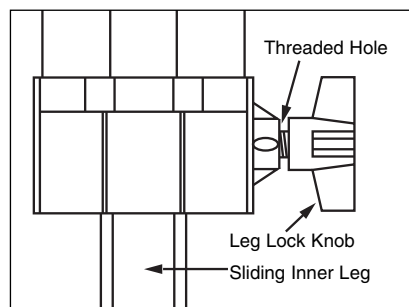

Fig. 1f: Tripod lock knob assembly.
- The three tripod lock knobs (43) have been removed from the bottom section of each tripod leg to insure safe arrival of the tripod assembly. To install, thread in each tripod lock knob into the threaded hole located at the right side of each of the three castings (see **Fig. 1f**) at the bottom of each tripod leg. Tighten the tripod lock knob only to a "firm feel" to avoid damage to the tripod caused by overtightening.
- Spread the tripod legs (1) to full extension so that the leg braces (42) are taut (should one of the tripod leg braces slip out of the center triangle fastener, merely reposition the brace and slide it back into position). Adjust the tripod with the attached equatorial mount (2) to the desired height by loosening the tripod lock knobs and extend the sliding inner section of each tripod leg; then tighten each knob.
- Attach the flexible cable controls (3) and (4). These cable controls are secured in place with a firm tightening of the thumbscrew located at the end of each cable.